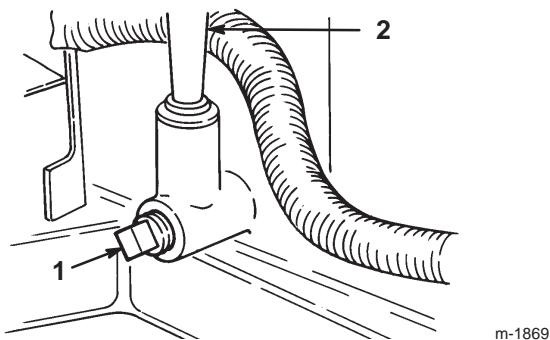

Figure 14
9. Place a drain pan below the oil dipstick/fill tube and remove the drain plug (Fig. 14).